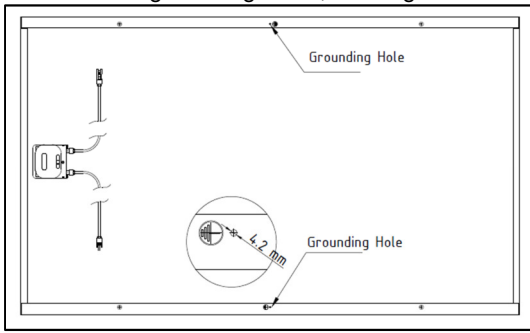
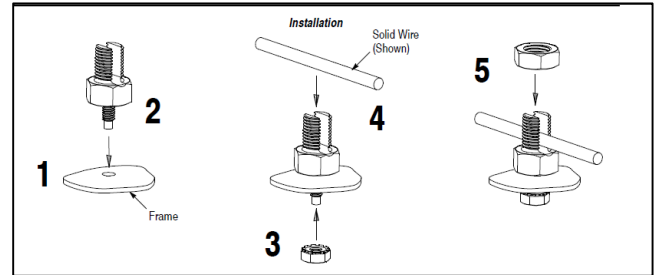
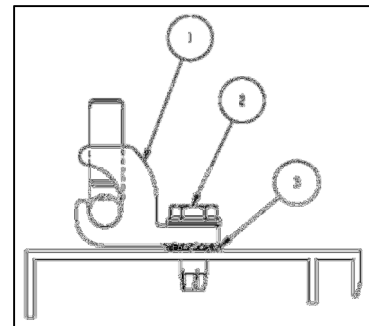
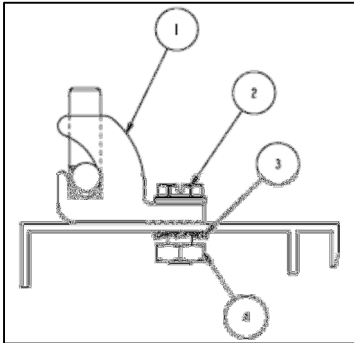

Figure 3: Grounding Hole Location
Figure 6: SolKlamp Grounding Bolt Diagram
Figure 7: Self Threaded Grounding Lug: Grounding Diagram
Figure 8: Grounding Lug with Nut: Grounding Diagram
- When using provided grounding holes on module frame locate 4.2 +/- 0.2 mm diameter grounding holes shown in Figure 3 that are marked by the grounding symbol. . The flange on which the grounding hole is located
Attach the grounding conductor to the module frame through at least one of the two grounding holes, See Figure 3.
The grounding clip manufactured by Tyco Electronics Corp. (Part number: 1954381-1) is UL listed and designed for module grounding applications using a solid 10 to 12 AWG un-insulated ground wire. It is attached to grounding hole on module frame, Figure 3, by an integrated, 10-32 in. self-tapping screw. Place the grounding clip onto the frame, making sure that the screw straddles the grounding hole. Using a No. 2 cross-recessed screwdriver, thread the screw into the hole until the head is flush with the base and the base is flush with the frame, then tighten the screw with another 1/4 to 1/2 turn. Recommended torque is between 20 in-lb (2.3 N-m) for screw. Insert the wire into the wire slot. Press down on both ends of the wire (the wire slot will cause the wire to form a slight curve). Manually, or using channel lock pliers, push the slider over the base until it covers the base. This will terminate the wire.
grounding applications using a solid 6 to 12 AWG un-insulated ground wire. It is attached to grounding hole on module frame, Figure 3, by an integrated, 8-32 in threaded post and nut. Locate the grounding hole on the underside of the module frame (1). Insert the threaded post end of the wire bolt into the hole (2). Finger-tighten the hex washer nut onto the threaded post (3). Position the grounding wire into the wire slot (4). Finger-tighten the nut onto the wire slot end until wire is compressed (5). Using a 9/16" open end wrench to hold the hex body of the wire bolt, and using a 9/16" socket wrench, tighten the mounting hex washer nut (3) to a torque of 25 in-lb (2.82 N-m). While holding the hex body, use an 11-32" socket wrench to tighten the wire binding hex nut (5) to a torque of 45 in-lb (5.08 N-m). See Figure 6.
The grounding bolt manufactured by IlSCO (Part number: GBL-4DBT) and bolt manufactured by Burndy (Part number: CL501TN) are UL listed and designed for module grounding applications using a solid 4 to 14 AWG un-insulated ground wire. Locate module grounding hole, Figure 3. Assemble a #10 stainless steel star washer (1) and #10-32 self-tapping screw (2) through grounding lug (1) and into the module grounding hole until washer and lug are flush with frame as shown in Figure 7. Using a 5/16 in. open ended wrench to tighten the screw (2) another 1/4 to 1/2 turn with recommended torque between 20 and 25 in-lb (2.3 and 2.8 N-m). Insert grounding wire into conductor slot of lug and tighten threaded set screw using a 5.5 x 0.8 mm (3/16 x 0.025 in.) flat headed driver to the torque specified in Table 1 to compress the conductor.
The grounding bolt manufactured by Burndy (Part number: CL501TN) is UL listed and designed for module grounding applications using a solid 4 to 14 AWG un-insulated ground wire. Locate module grounding hole, Figure 3. Using a 5/16 open ended wrench, thread #10-32 self-threading screw through the grounding hole to open up the hole size and remove. Assemble a #10-32 bolt (2) through the grounding lug (1) and into the module grounding hole. Install a # 10 stainless steel star washer (3) and hex nut (4) around the frame until washer and lug are flush with frame, as shown in figure 8. Using two 5/16 in. open ended wrenches to tighten the screw (2) and bolt (4) another ¼ to ½ turn with recommended torque between 20 and 25 in-lb (2.3 and 2.8 N-m). Insert grounding wire into conductor slot of lug and tighten threaded set screw using a 5.5 x 0.8 mm (3/16 x 0.025 in.) flat headed driver to the torque specified in Table 1 to compress the conductor.